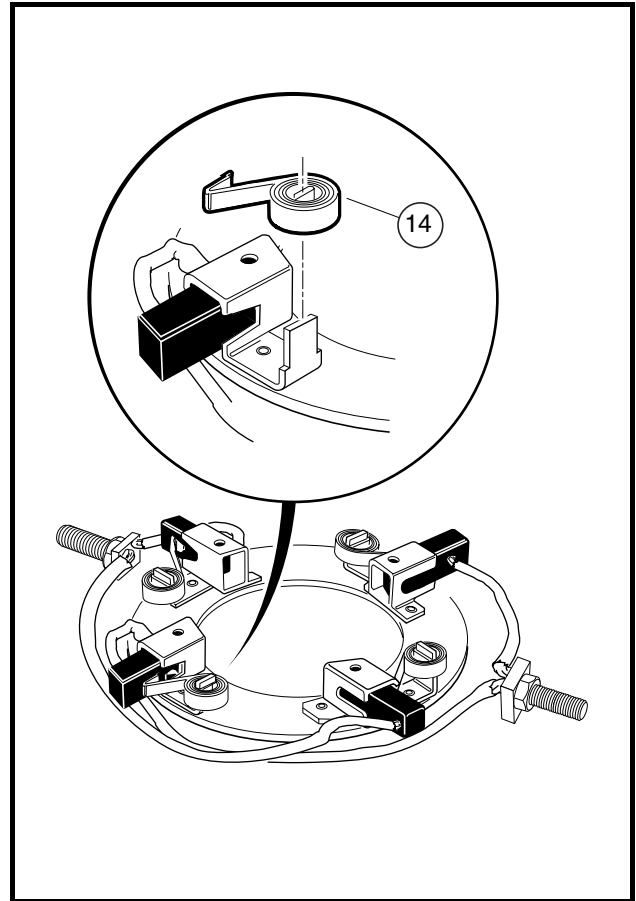

Figure 15-6 Brush Spring Removal
8. To remove brush springs (14) from the rigging, lift the spring extensions out and over the brush mounts and then slide the springs off their mounting tabs (**Figure 15-6, Page 15-5**).
4. One at a time, push brush spring extensions back from brushes and slide brushes back until they are completely retracted into their mounting slots. Then position brush springs against sides of brushes so spring pressure will hold them in the retracted position (**Figure 15-6, Page 15-5**).